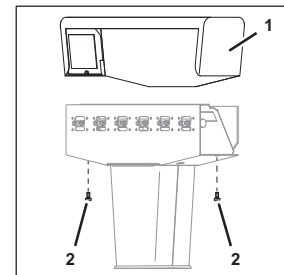

Fig. 32
1. Remove the fastening bolts (Fig. 32/2) from the hood (Fig. 32/1).
2. Lift and remove the hood (Fig. 32/1) from the unit.
4. Position the new hood (Fig. 32/1) on the unit.
5. Attach the hood (Fig. 32/1) using the fastening bolts (Fig. 32/2).